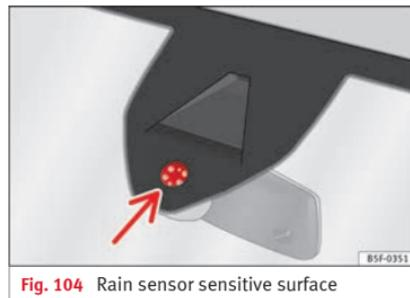

Fig. 104 Rain sensor sensitive surface
Possible causes of faults and mistaken readings *on the sensitive surface* » Fig. 104 of the rain sensor include:
- Clean the sensitive surface of the rain sensor regularly and check the blades for damage » Fig. 104 (arrow).